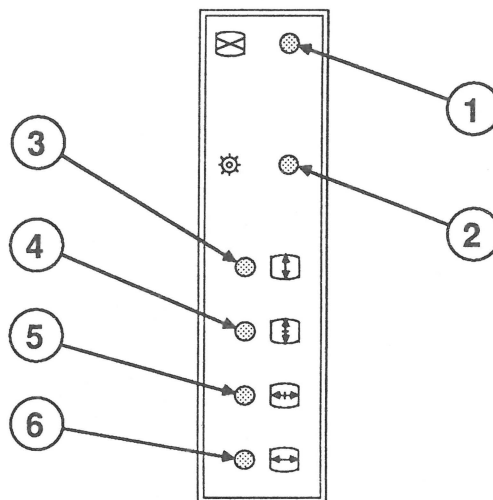

FIGURE 2
- Focus (Figure 2, #1)
- Cutoff (Figure 2, #2)
- Vertical size or height (Figure 2, #3)
- Horizontal size or width (Figure 2, #6)
The vertical hold (Figure 2, #4) and horizontal hold (Figure 2, #5) adjustments are set at the factory and normally do not need adjusting.